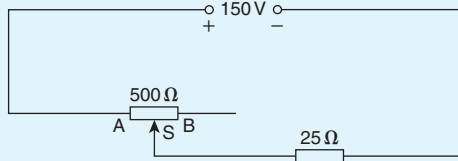

Figure 5.45
2. For the circuit shown in Fig. 5.45, calculate the current flowing in the $25\ \Omega$ load and the voltage drop across the load when (a) AS is half of AB , and (b) point S coincides with point B . Is this a potentiometer or a rheostat?